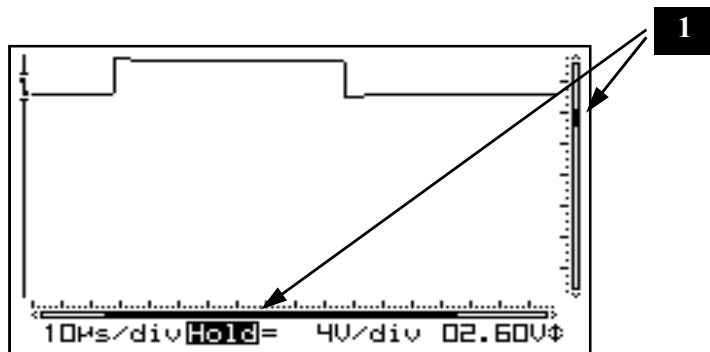

Fig 35
Press first the 'X/Y-pos' key before pressing the arrow keys in order to move the signal in the direction of the arrows. Prolonged pressing will make the X or Y-position change faster. A black bar (1) indicates the relative position of the signal in the sample window, see fig. 35